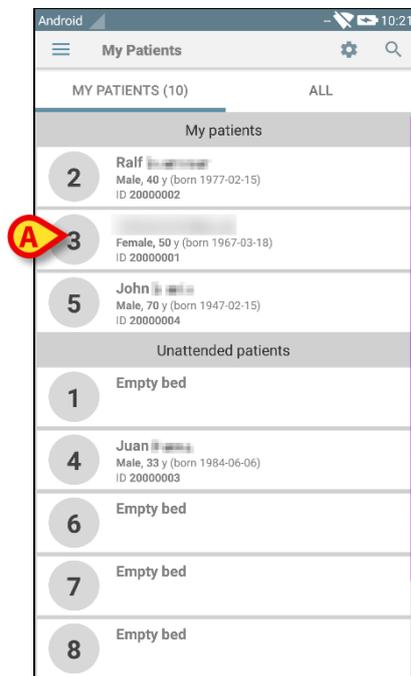
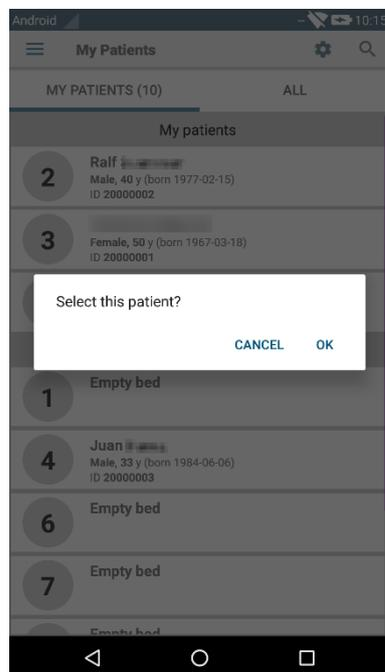

Fig 38
Fig 39
- Touch the tile indicated in Fig 38 **A**. User confirmation is required (Fig 39).